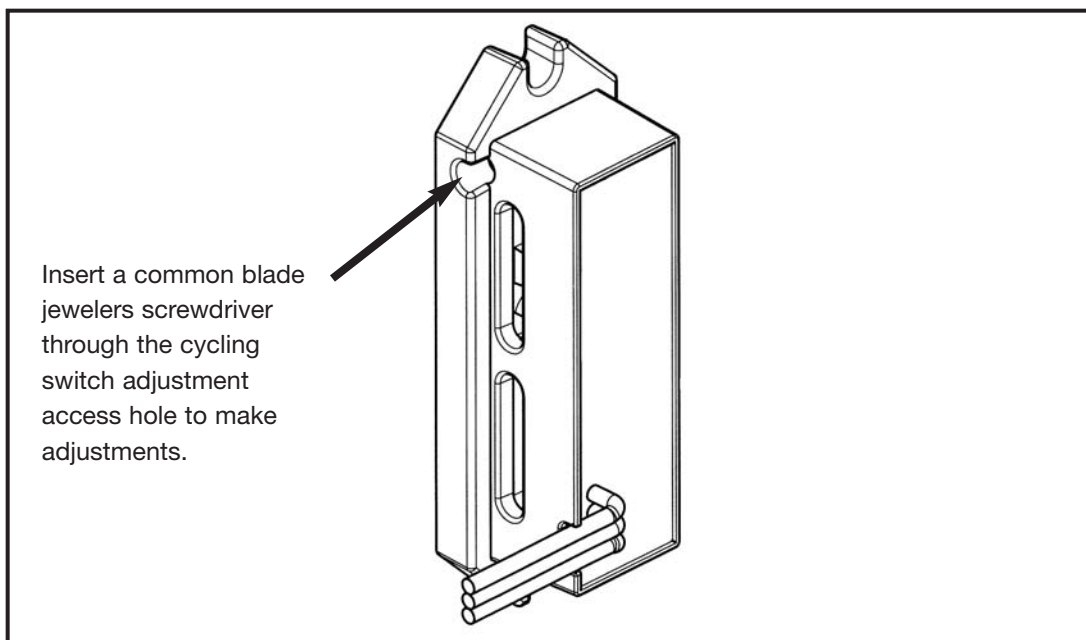

Figure 4 - P/N 81000 & 81001 Cycling Switch Adjustment Access
#### F. Improved Cycling Switch Test and Adjustment (Refer to Fig. 4.)
- (1) To test the function of the Improved Cycling Switch, put a thermometer or a temperature probe capable of reading temperatures up to 500° F in the ventilation duct approximately 18 to 24 inches from the heater outlet and in the approximate center of the duct.
- (2) Connect a 16 gage (minimum) jumper wire across the terminals of the duct switch, if applicable, to make it inoperative.
- (3) Start the heater and observe the action of the cycling switch while the heater is running.
- (4) The cycling switch should cycle to control the outlet air temperature below 250° F. This is a function of ambient air temperature and air flow conditions.
- (5) Observe heater cycling switch operation by monitoring the temperature fluctuation indicated by thermometer. Normal operating range is 190° F to 230° F.
- (6) If the switch cycles outside of this range (high or low), it can be adjusted to the normal range of 190° F to 230° F. Do not to exceed 250° F.
- (7) To adjust temperature range, turn the adjusting screw counterclockwise to decrease temperature and clockwise to increase temperature. (Refer to Figure 4.)